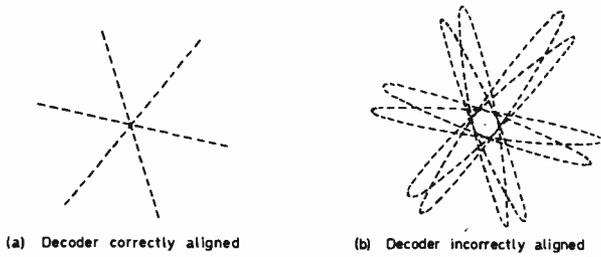

Fig. 4: X-Y oscilloscope display under the same conditions as in Fig. 3 but with the decoder reference oscillator not in lock.
display that will be obtained is shown in Fig. 4 for correctly and incorrectly aligned decoders. Before proceeding further it may be helpful to describe what is appearing on the screen of the oscilloscope.
If, repeating the process, we move on to the instant shown in Fig. 5(c) there will be no output at all from either demodulator because the reference carriers to each demodulator are 90° out of phase. The dots are now coincident at the zero point. The result of all this is that we get a dotted line R-C as shown earlier in Fig. 4(a).
Fig. 5: The dotted lines shown in Fig. 4 (a) are produced as the reference oscillator drifts through one complete cycle. (a) Oscillator reference carriers in correct phase. (b) Both carriers here have drifted away from their correct phases, giving reduced output. (c) When both reference carriers have drifted 90° out of phase there is zero output from both demodulators: the spot is then at the centre of the screen.
- (1) With a colour-bar signal or any pattern with large areas of colour first obtain a normal picture display.
- (2) Connect the X and Y plates of the oscilloscope to the B-Y and R-Y demodulator outputs.
- (3) Disable the a.p.c. loop and the colour killer. Bias back the a.c.c. circuit if the saturation is too high.
- (4) Check and if necessary adjust the reference oscillator for slow slip.
- (5) Adjust the gain of the oscilloscope to give a display which fills about two-thirds of the screen. You should now have the display of Fig. 4 or its equivalent depending upon the colour test pattern.
- (6) Adjust the reference carriers' quadrature condition and the delay line matrix amplitude control to turn all ellipses into straight lines.
(7) Adjust the delay line matrix phase control to swing pairs of lines together to form single lines.
(8) Repeat (6) and (7) as necessary.
(9) Enable the a.p.c. loop and adjust the overall phase for close coincidence of the half-amplitude dots on the yellow/blue axis.